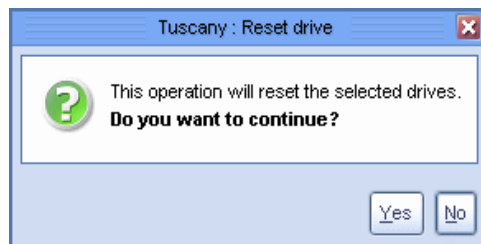

Figure 10-109 Reset drive confirmation window
4. Select **VT** → **VT Drive** → **Reset drive**. A confirmation message window opens (Figure 10-109).